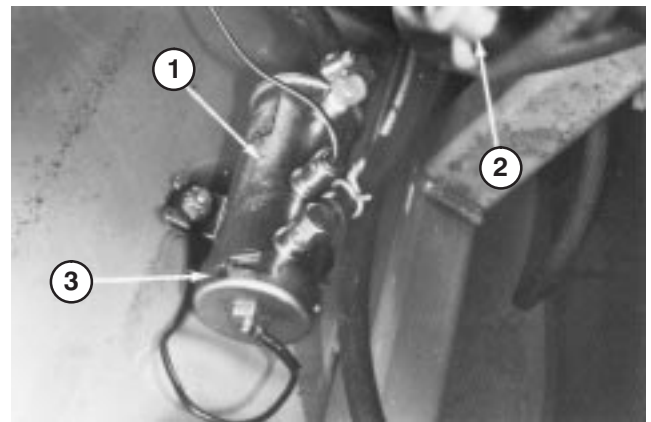

Figure 44
1. Fuel pump is located on inner frame bulkhead to left of drive coupling assembly (Fig. 44).
3. Place a drain pan under fuel pump and remove cover from fuel pump with 17 mm wrench (Fig. 44). Take care not to damage wire while removing cover.
6. Clean magnet of any residue (Fig. 45), insert filter into body, and install cover (Fig. 44).